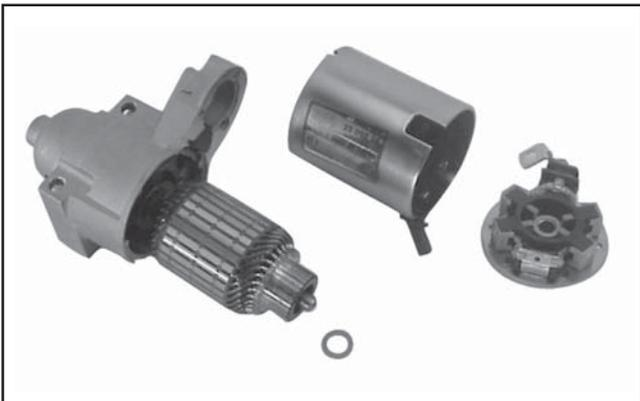

Figure 8-21. Starter Frame Removed.
6. Remove the frame from the armature and drive end cap. See Figure 8-21.